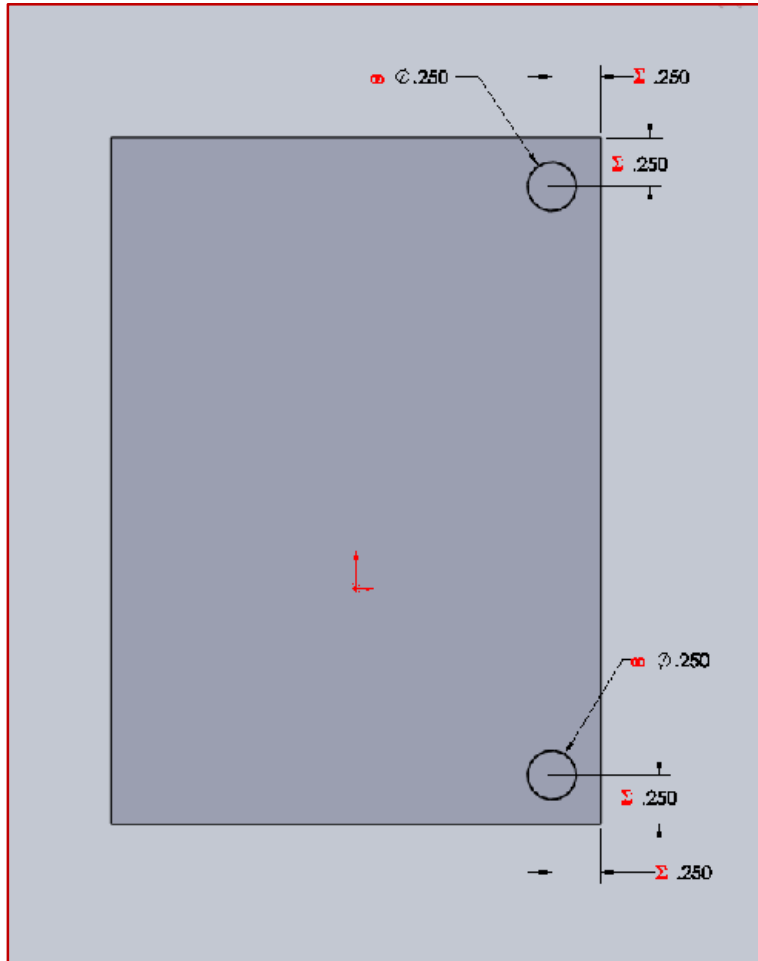

Figure 8.2 – Corner Holes
- ✓ Your sketch should look like Figure 8.2. The Σ indicates that we have equations for the dimensions.
It is possible to have too much information in your sketch. Figure 8.2, for example shows dimensions and sketch relations. To turn-off the sketch relations, use **View→Sketch relations** on the **Main Drop-down Menu** to toggle on and off. Other useful toggles are **View→Temporary Axis** and **View→Hide All Types**.